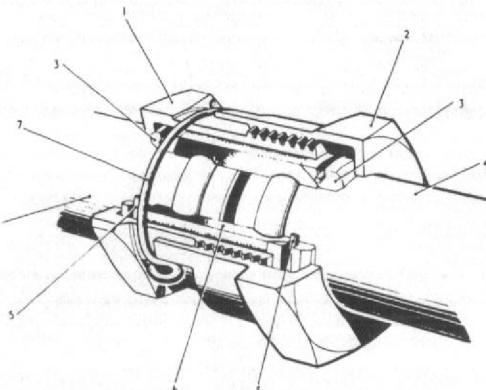

Fig. 9B Pipe connector (Flight Refuelling)
**26.** Before replacing fuel pipe lines that have been removed during servicing, or fitting new pipe lines, ensure that they are clean and smooth internally, as sharp edges at joints, nipples, etc., can cause aeration of the fuel. Ensure also that, when replaced, the arrows on the pipes and non-return valves point in the direction of flow. When refitting the pipes, ensure that the Flight Refuelling pipe connectors (fig. 9B) are assembled correctly. The procedure for the assembly of these connectors, which must be strictly adhered to, is as follows:—
- (1) Ensure that the two pipes (fig. 9B, item 4), to be connected, are in alignment.
- (2) Fit the inner sleeve (1) over the one pipe end, and the outer sleeve (2) over the opposing pipe end.
- (3) Fit the split collars (3) over the pipes, beyond the beading as shown, by removing the circlip (5) and replacing when the collars are in position.
- (4) After first ensuring that there is a gap of 0.135 in. max. to 0.060 in. min. between the pipe ends, fit the rubber sleeve (6) over the ends of each pipe, at the same time ensuring that the gap between the pipes is maintained: this is very important.
- (5) Screw the outer sleeve on to the inner sleeve after first smearing the threads with anti-seize compound ZX-28.
- (6) Tighten the coupling by hand, then finally tighten with spanners a  $\frac{1}{4}$  to  $\frac{1}{2}$  turn beyond hand-tightening.
- (7) Fit locking circlip (7) by inserting the plain end into one of the three  $\frac{1}{16}$  in. holes in the hexagon of the inner sleeve so that the formed end of the circlip is between two of the castellations.